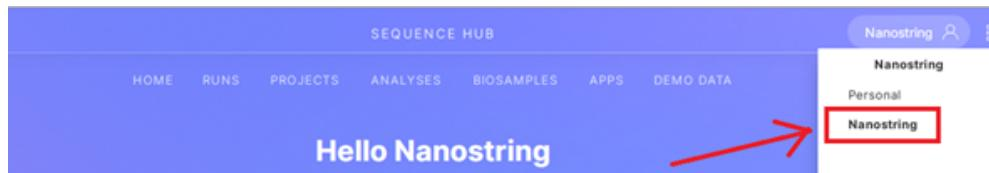

Figure 13: Selecting workgroup in BaseSpace
1. Log into BaseSpace and select the correct workgroup (see Figure 13).